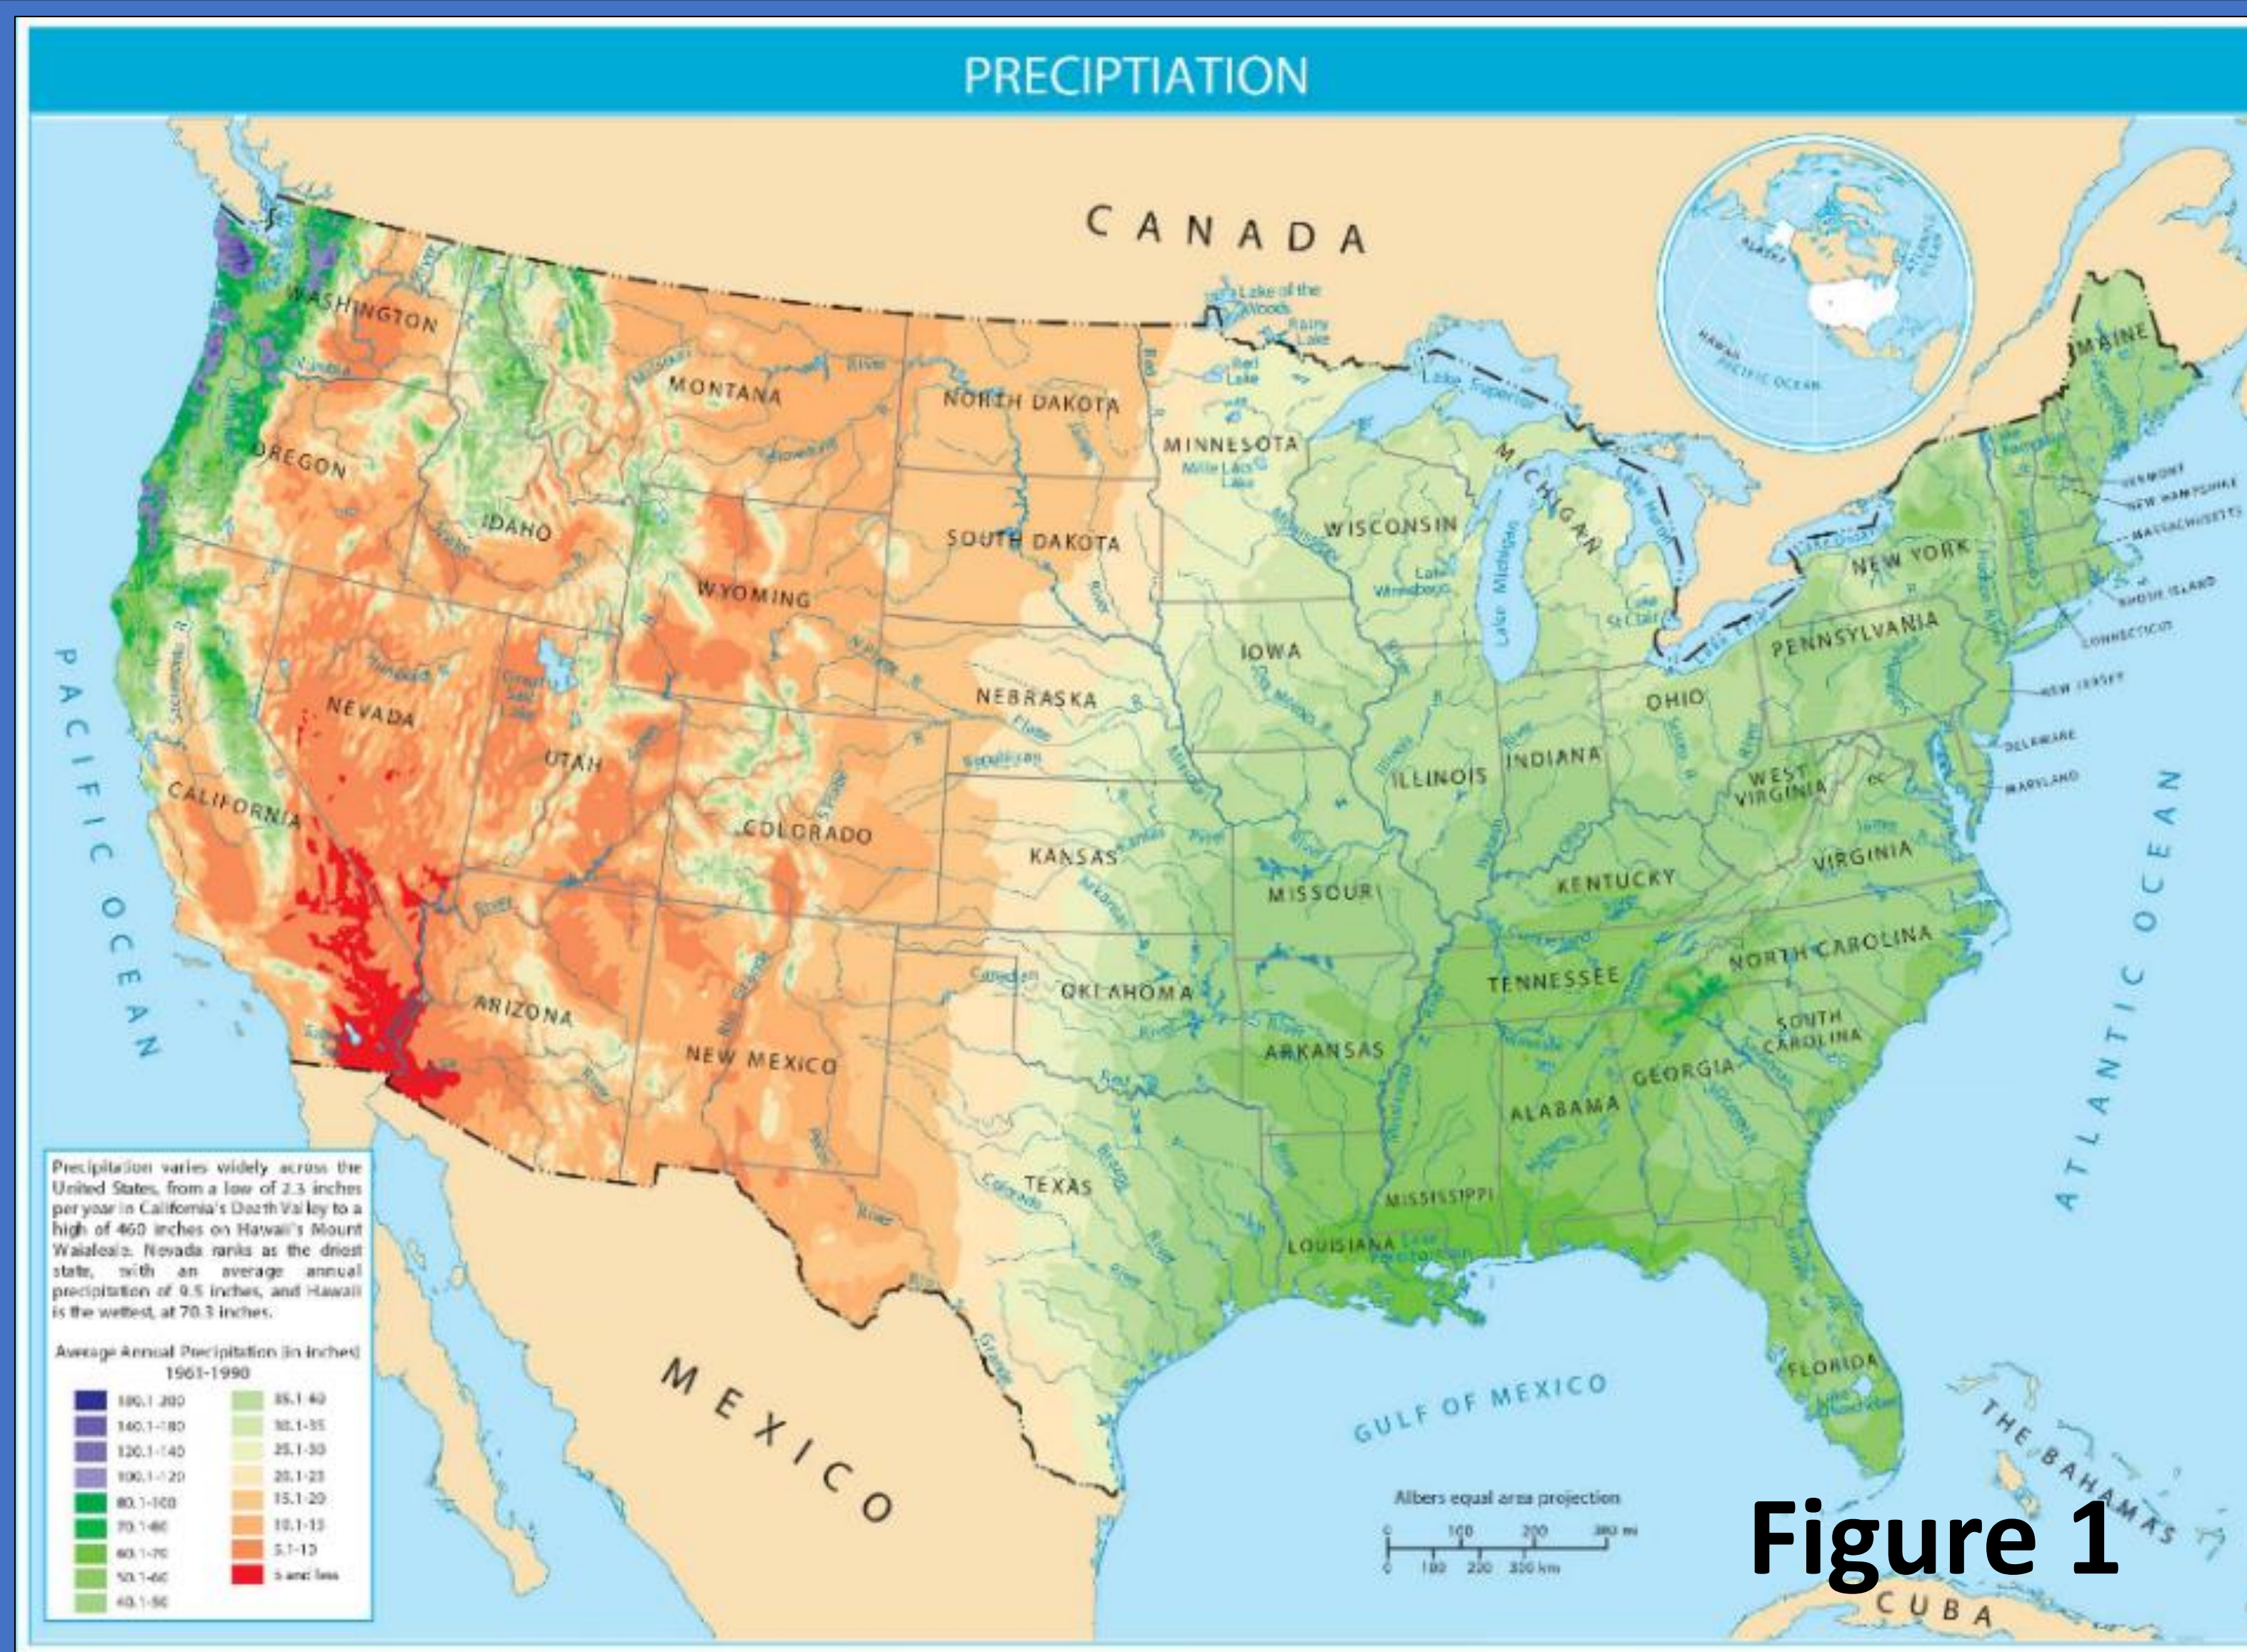

Figure 1
- The tan and light orange color areas in Figure 1 (California Central Valley and band of states from North Dakota and Wyoming down to New Mexico and Texas) get 15 inches of rainfall per year. Roll-A-Rack rain harvesting could effectively double the rainfall and reduce irrigation costs. The total harvested cropland in the US is 309 million acres. Fifteen percent of that, 46 million acres, gets between 10-20 inches of rain.